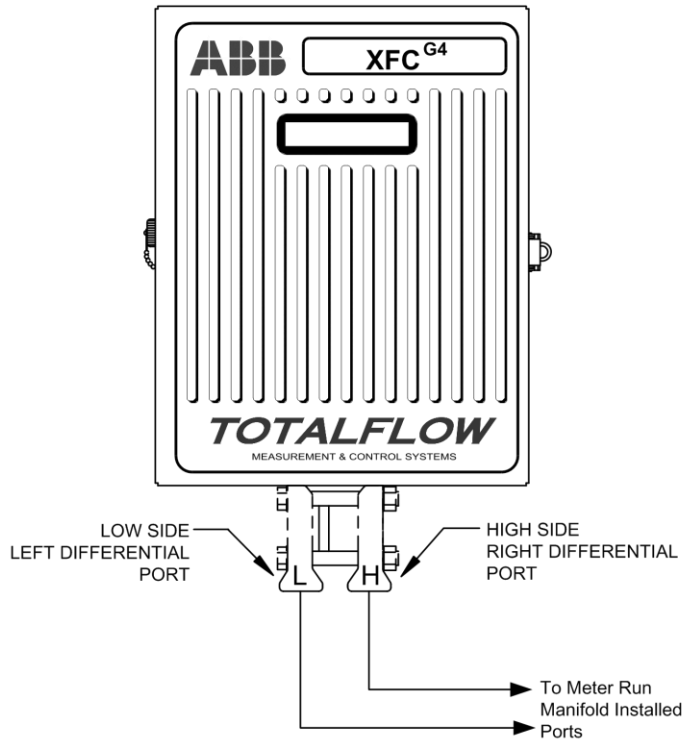

Figure 48 Transducer Low and High Side Ports
The following procedure will provide the user with the necessary steps to install the manifold. The meter run manifold high (H) and low (L) pressures terminate in flow computer H and L differential port cells. Differential port cells are located on the bottom of the flow computer (see Figure 48).